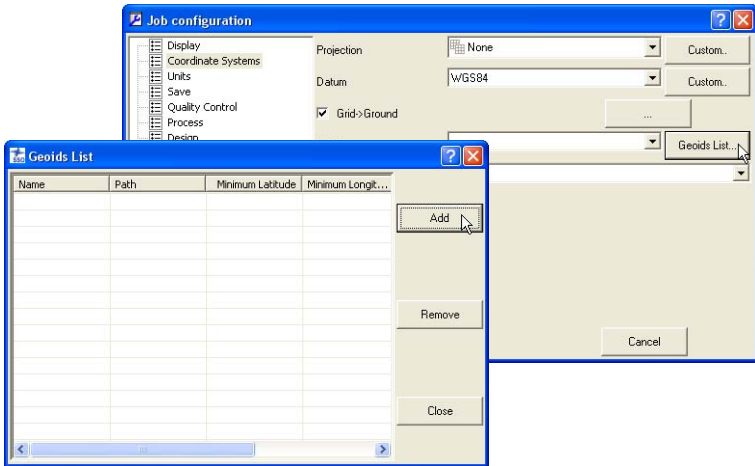

Figure 2-25. Add Geoids List
1. Click the **Geoids List** button to import a geoid model to Spectrum Survey Office. Click **Add** to open a geoid (Figure 2-25).